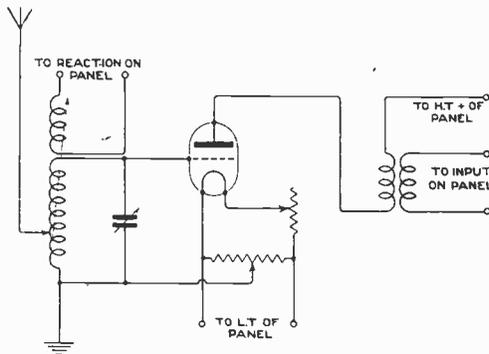

Fig. 2.
(1) and (2) Yes, this can be done. See diagram (Fig. 2.)
(3) Yes, for fairly light duty at slow speeds.
(2) Using exactly the same formula the capacity of this condenser is 0.0037 mfd.
"E.P." (Sanderstead) refers to Fig. 2, page 584, of December 10th, and asks (1) If a single slide tuner could be used. (2) Which is the reaction condenser. (3) If a sample of wire sent is suitable for a lead-in. (4) If set is suitable for PCGG.
(1) A single slide coil may be used for the A.T.I. if a reaction coil to slide inside the A.T.I. is provided.
(2) Strictly speaking no condenser in this set is a reaction condenser. Reaction is obtained by the coil across Condenser 3, which is better omitted. The coil need not have a slider.
(3) Yes.
(4) Just possible with very careful handling.